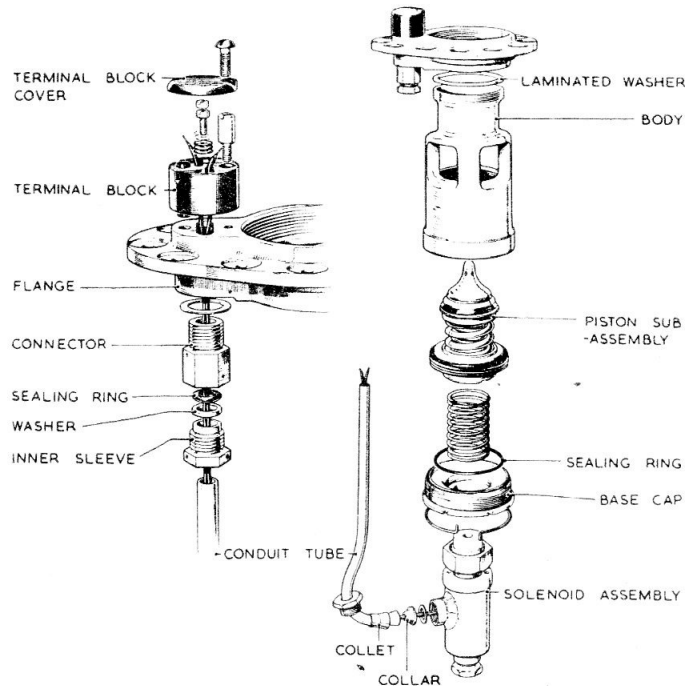

Fig. 2. Exploded view of fuelling valve
5. Four outlet ports are arranged symmetrically around the body barrel (*fig. 2*) which also has two steps machined in the bore to provide seatings for the piston crown and the piston body.
9. The adapter consists of a cast elliptical flange for mounting the valve in the aircraft tanks. A conduit assembly brings the wires from the coil case up to the terminal block mounted on the adapter plate (*fig. 2*). Twelve counter-bored holes, spaced equally around the flange, allow the adapter to be bolted to the tank.